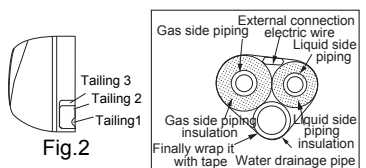

Fig.2
1. When routing the piping and wiring from the left or right side of indoor unit, cut off the tailings from the chassis in necessary. (show in Fig.2)